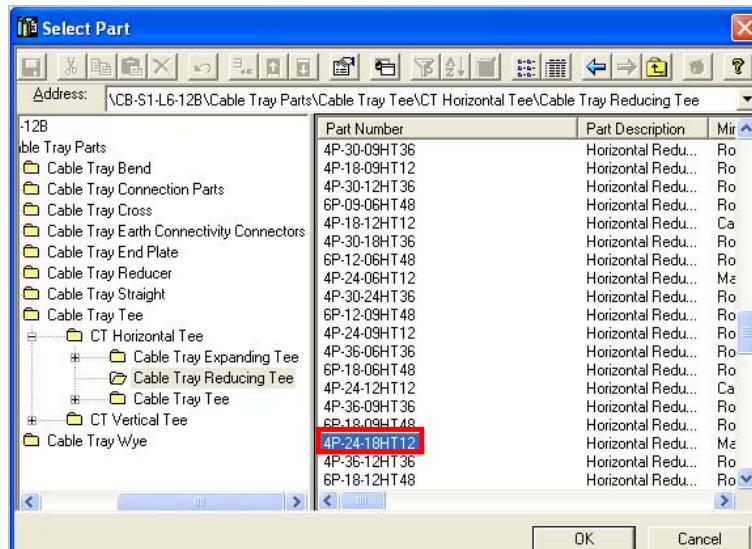

Figure 24: Select Part Dialog Box
38. The **Select Part** dialog box appears. Expand the node **CB-S1-L6-12B\Cable Tray Parts\Cable Tray Tee\CT Horizontal Tee\Cable Tray Reducing Tee** in the left pane of the **Select Part** dialog box. Select the **Part Number 4P-24-18HT12** in the right pane of the **Select Part** dialog box, as shown in Figure 24.